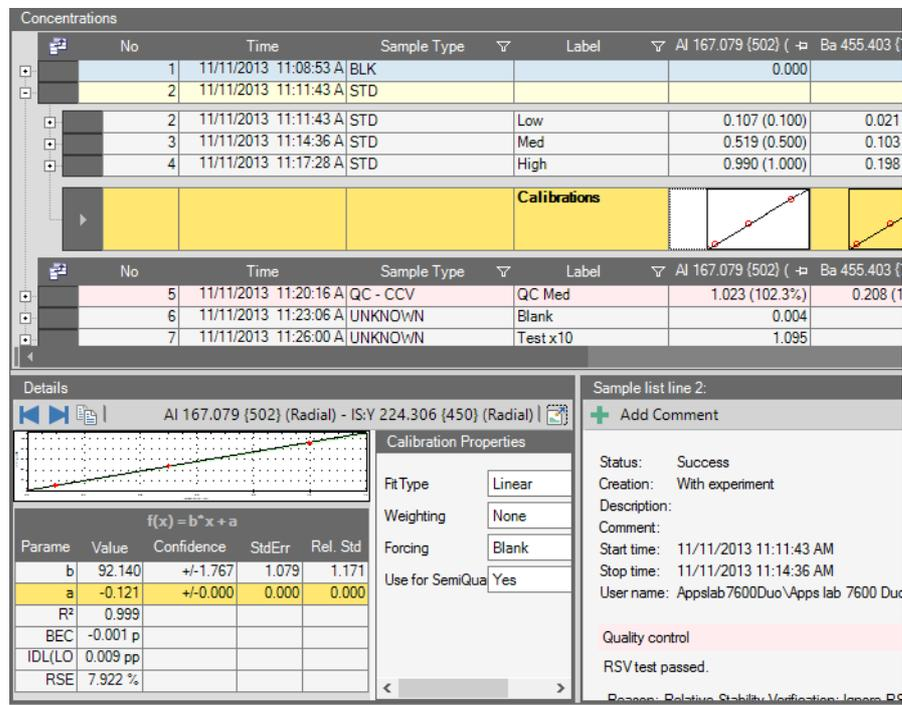

Figure 10-45. Evaluation Results: Concentrations Details
Expand a line to display the mean as well as the standard deviation (SD) and relative standard deviation (RSD) values. In the thumbnails, filled circles indicate that the value was measured in the analog mode, red circles represent excluded entries. The blue line in the Details view represents the mean of the different main runs, see Figure 10-45.